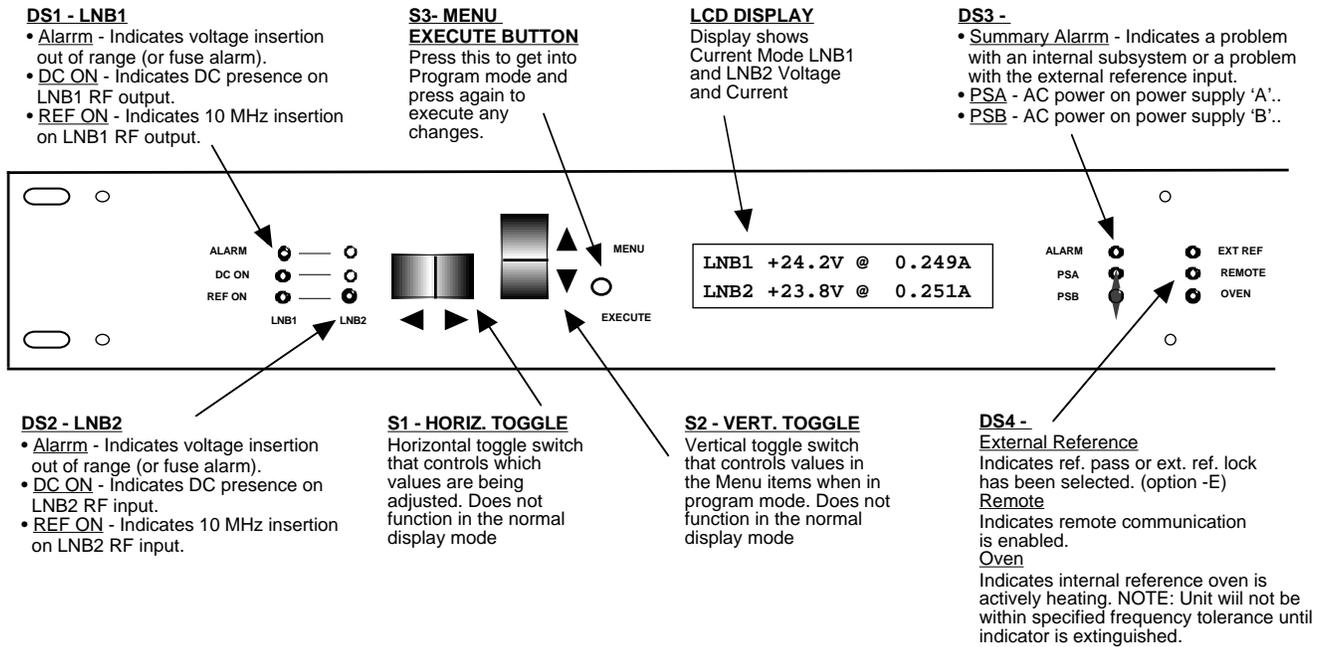
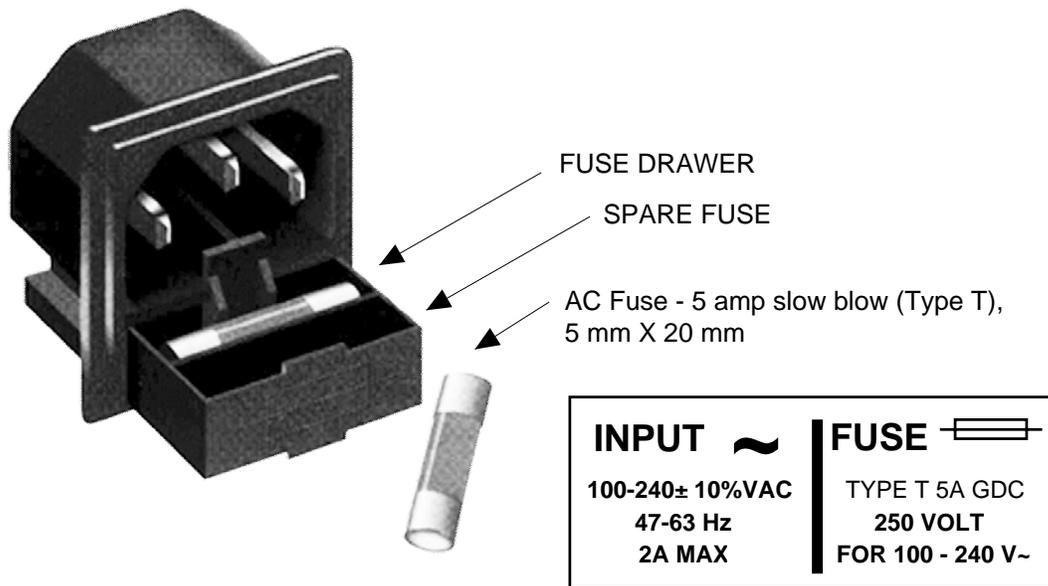

FIGURE 2.2 2099-24 Front Panel Controls and Indicators
FIGURE 2.3 Fuse Location and Spare Fuse
3. Be sure PSA and PSB LEDs (green, POWER) are on (Figure 2.2).
6. (Option -E only) Choose one of the five (5) modes (Internal, Ext Pass, Ext Pass Auto, Ext Lock, or Ext Lock Auto) in which to operate the unit.
7. AC FUSE - The fuse is a 5 mm X 20 mm, 2 amp slow blow (Type T) and is inserted in the far slot in the drawer below the AC input as shown in Figure 2.3. There is a spare fuse in the near slot. If a fuse continues to open, the power supply is most likely defective.
8. AC FUSE - The fuse is a 5 mm X 20 mm, 2 amp slow blow (Type T) and is inserted in the far slot in the drawer below the AC input as shown in Figure 2.3. There is a spare fuse in the near slot. If a fuse continues to open, the power supply is most likely defective.
Alarm indications appear on the LED (see Figure 2.2).